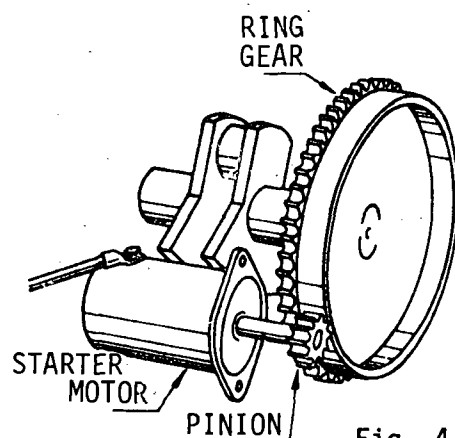
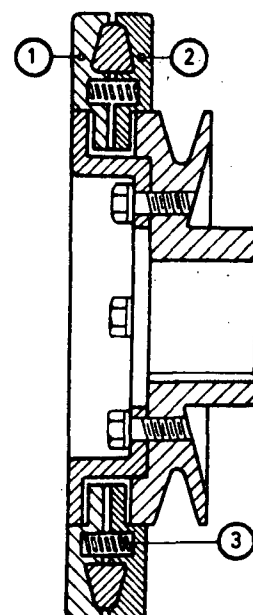

Fig. 4
Fig. 5
The flywheel, fig. 4, of the engine is situated at the rear end of the crankshaft and on its perimeter it has a geared rim or segment, which is controlled by the starter motor gear wheel when the engine is made to function. In order to reduce the effects of the vibrations, produced during acceleration, the crankshafts are furnished with a vibrations mechanical damper, made up of 2 discs (1 and 2) (fig. 5), separated by springs (3) designed to drag the unit as a result of friction.